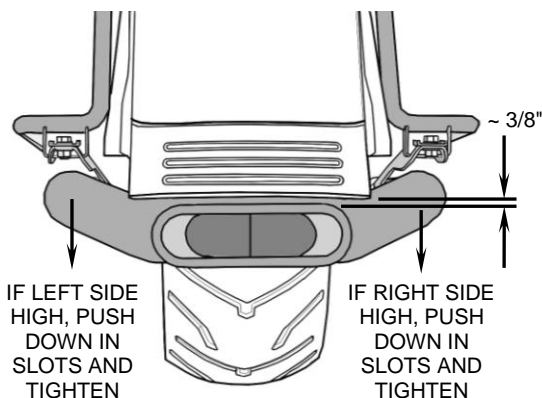

FIGURE 5
9. Now look to make sure the tip is level side to side and that there is **NO** more or less than a $\frac{3}{8}$ " gap / clearance between lower edge of fender and top of exhaust tip, see Figure 5 & 6. This can be adjusted by moving the Center Pro assembly up and down in the muffler mount slots. First get the gap / clearance correct and tighten one side. Next push down slightly or pull up slightly on opposite side and tighten bolts when level.